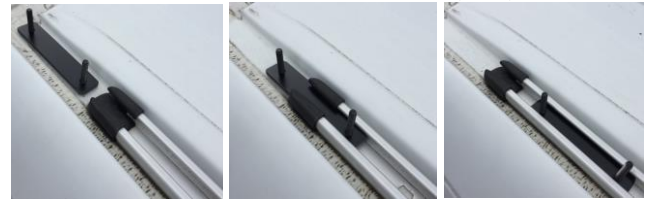

Figure 14: Track Threaded Insert Installation
10. Insert the studded inserts into each side of your track system in preparation of your roof rack as shown in Figure 14. Slide them down the track to the approximate mounting bracket locations.